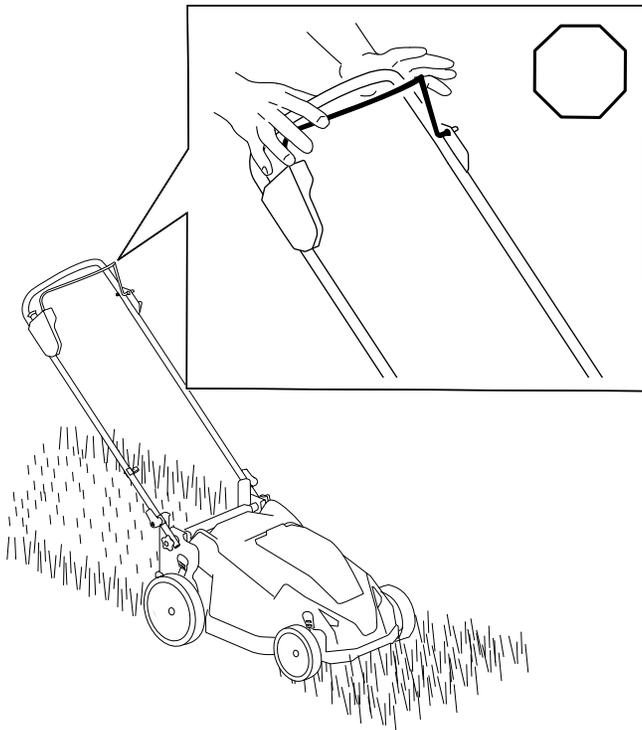

Figure 11
1. Release the blade-control bar (A of Figure 11).